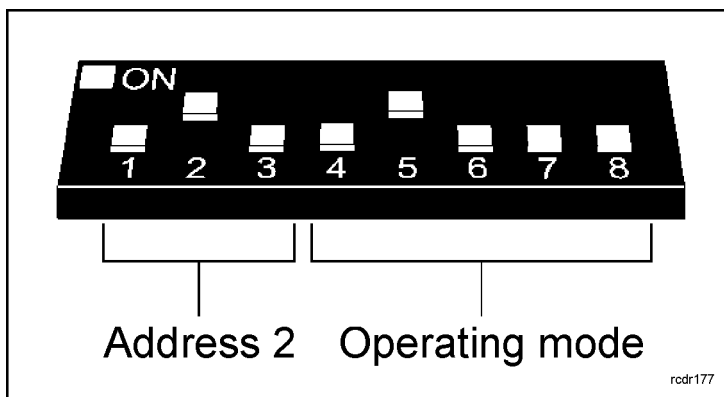

Fig. 3 INT-RS dip switch setting with exemplary address
3. Select the operating mode for INT-RS converter according to fig. 3.
According to SATEL instructions, the address of INT-RS converter to be connected to the keypad bus in the INTEGRA 24 and INTEGRA 32 alarm control panels must be in range 0 - 3 (up to 4 keypads/other devices can be connected) and in case of INTEGRA 64, INTEGRA 128 and INTEGRA 128-WRL alarm control panels the address of INT-RS converter must be in range 0 – 7. Each keypad /device to be connected to the keypad bus must have its own individual address (addresses cannot be duplicated). Dip switches are used for address configuration. The integration with RACS 4 system requires selection of operating mode i.e. dip switch no. 5 must be on. The configuration of INT-RS converter with exemplary address is shown in fig. 3.